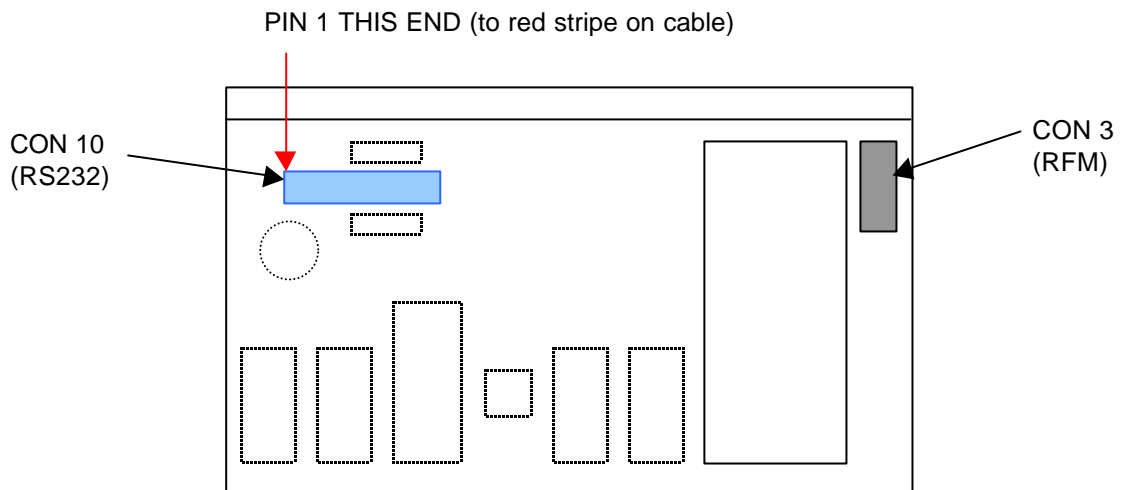

Fig 1. Standard controller main board showing RS232 and RFM cable connection points
5. The RS232 cable consists of a 25 Pin socket on a cable plate connected to a 20 pin header socket by a grey ribbon cable. Remove the rectangular blanking plate at the back of the controller. Install the cable plate with red cable edge to the left hand side when viewed from the front. Plug the header socket into CON10 noting that the orientation key is in the front of the connector. (see Fig 1).
6. The RFM cable consists of a circular 9 pin socket mounted on a cable plate connected to a 10 pin plastic single line header socket by a grey plastic cable. Remove the round blanking plate at the right hand end of the controller. Install cable plate with red dot to the top. Plug white cable socket into CON 3 which can be found at the top right hand corner of the main PCB. (see Fig 1).